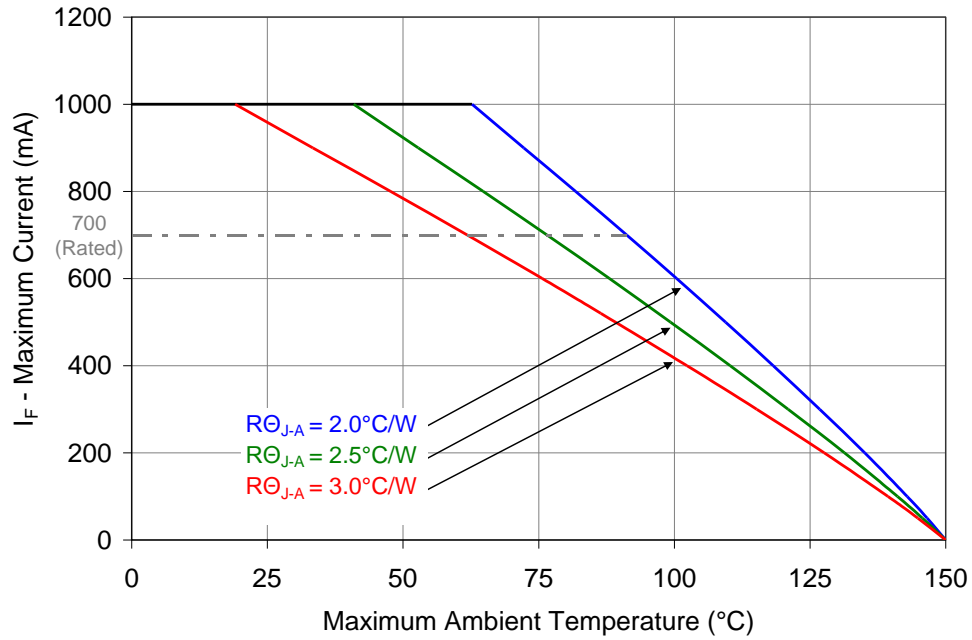

Figure 10: Maximum forward current vs. ambient temperature based on $T_{J(\text{MAX})} = 125^{\circ}\text{C}$.
- Maximum DC forward current (per die) is determined by the overall thermal resistance and ambient temperature. Follow the curves in Figure 10 for current derating.
Notes for Figure 10: